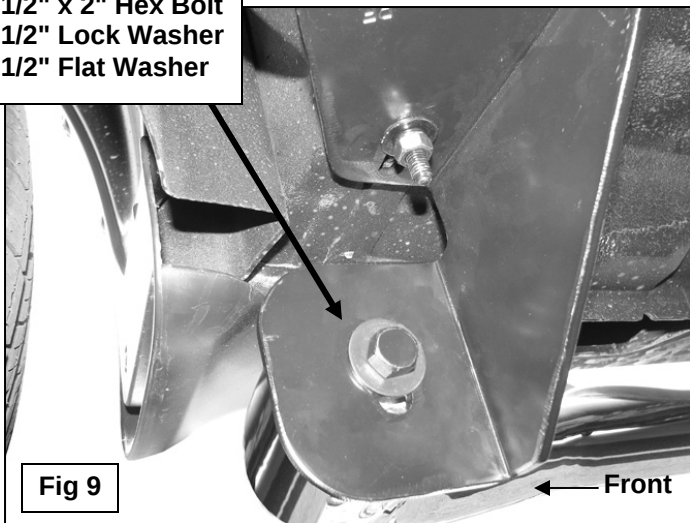
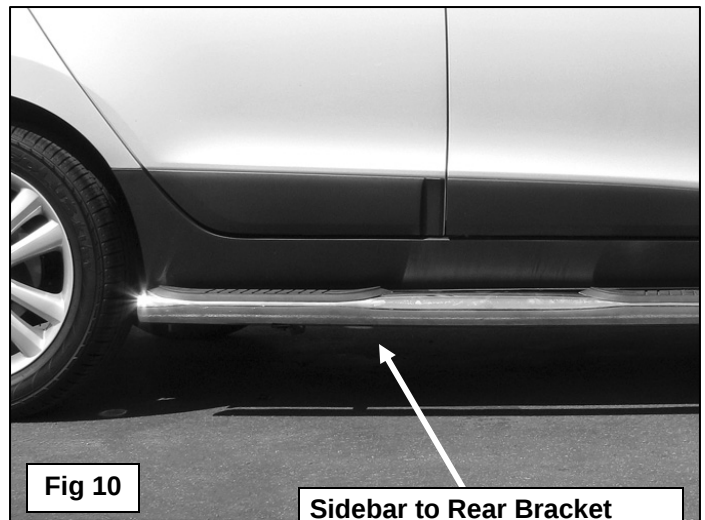

Fig 9
Fig 10
8. Carefully position the front of the passenger Sidebar up to Mounting Bracket and attach it using the included (1) 1/2" x 2" Hex Bolt, (1) 1/2" Lock Washer and (1) 1/2" Flat Washer, **(Figure 9)**. Leave hardware loose. Next, lift the Sidebar up to the rear Mounting Bracket and line up the (2) mounting holes. Bolt the Sidebar to the Bracket with (2) 8mm x 25mm Hex Bolts, (2) 8mm Flat Washers and (2) 8mm Lock Washers, **(Figure 10)**. Do not tighten hardware at this time.